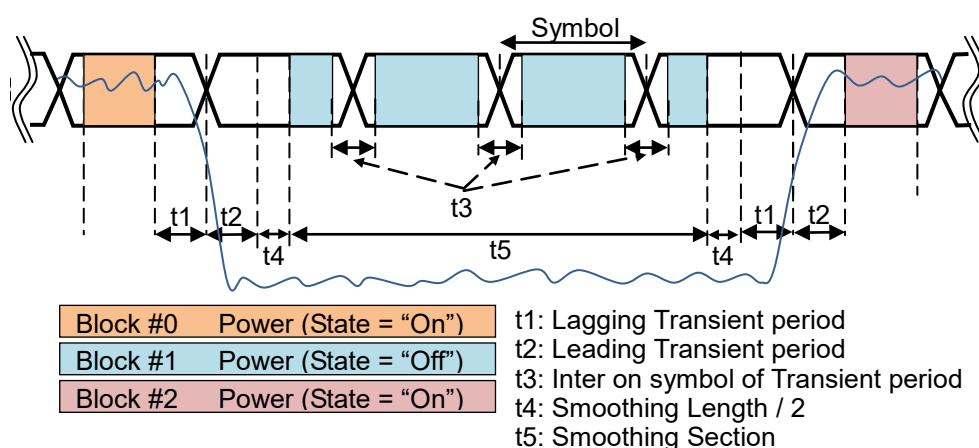
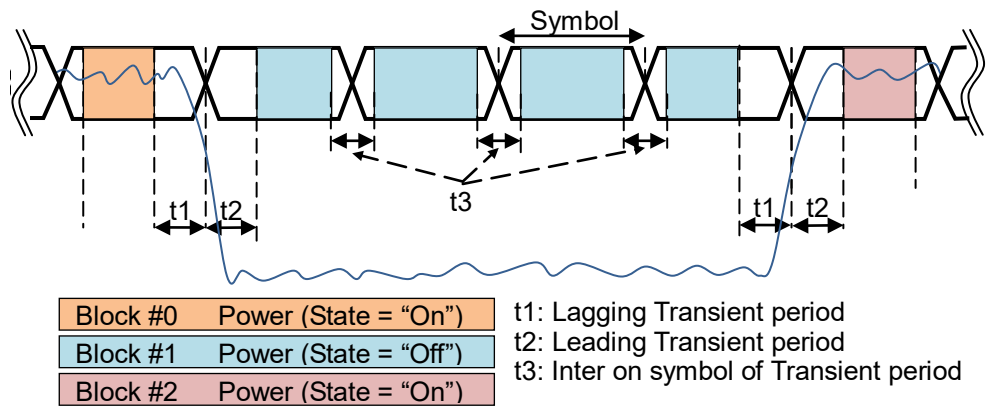

Figure 3.22-3 Off Block Power Calculation Range (1)
Figure 3.22-4 Off Block Power Calculation Range (2)
- Refer to Figure 3.22-3 Off Block Power Calculation Range (1)
- Refer to Figure 3.22-4 Off Block Power Calculation Range (2)
- Figure 3.22-3 Off Block Power Calculation Range (1): Smoothing is set to On, and Smoothing Range is set to Mask.
- Figure 3.22-4 Off Block Power Calculation Range (2): Other than above.
- Figure 3.22-3 and Figure 3.22-4 shows the power calculation range for each block when the state of 6 symbols is "On, Off, Off, Off, Off, On".